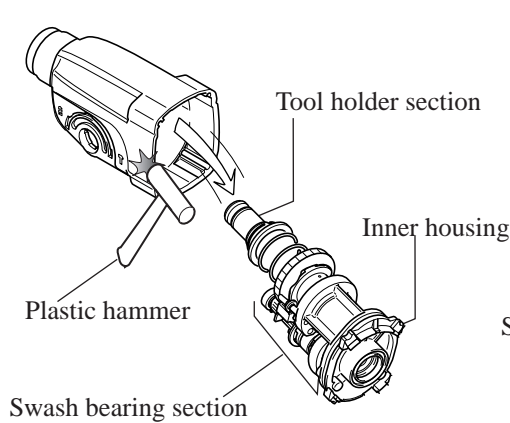
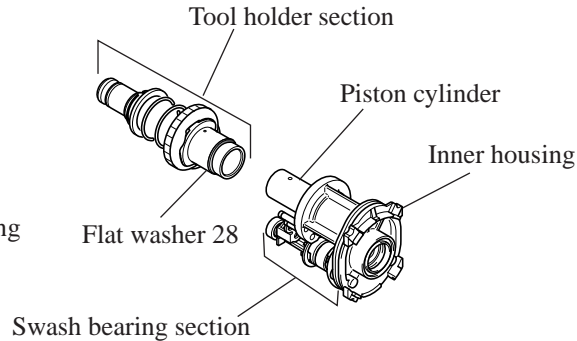

Fig. 6
Fig. 6A
3. Disassemble inner housing from gear housing as illustrated in Fig. 6.
4. Separate tool holder section from inner housing as illustrated in Fig. 6A. Pay attention, not to lose flat washer 28, when separating tool holder section.
4. Assemble flat washer 28 as illustrated in Fig. 6A.
5. Insert piston cylinder of swash bearing section into tool holder. And assemble tool holder section by pressing into inner housing as illustrated in fig. 6A.
1. Referring to < 8 > Disassembling tool holder section at page 5 and 6, disassemble ring spring 28, washer 30, compression spring 31 and spur gear 51 from tool holder. See Fig. 6, Fig. 6A, B, C, D and E.